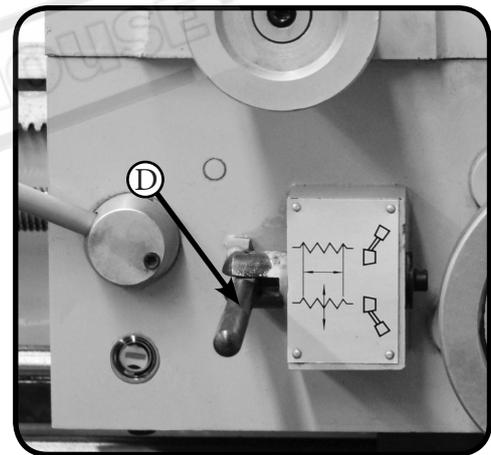

Fig. 35
- D. Feed Selection Lever:** This lever changes the power feed to either the cross slide or the carriage. When the lever is down and the indent pin is pointing up, the cross slide is selected. When the lever is up and the pin is pointing down, the carriage is selected. When the lever is in the middle position, no feeds are selected and the apron gears are disengaged from the feed rod and neither component will move. (Fig. 35)
- A. Threading Direction Lever:** When cutting threads this lever selects the direction the thread is cut, either towards the chuck or towards the tailstock. (Fig. 35)